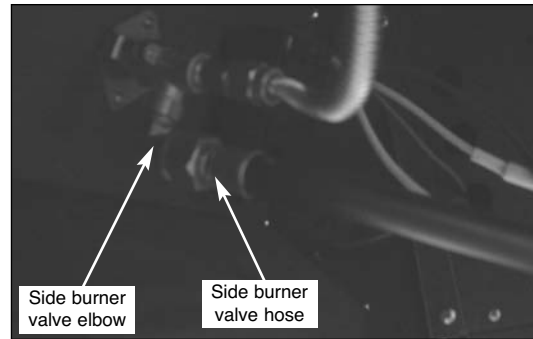

Fig 1
1. Use a 3/4" wrench disconnect the hose from the side burner valve and pull the hose back into the cart. (See Fig. 1)
26. Attach the NG hose provided in the kit to the side burner valve. (See Fig. 1 on page 2)